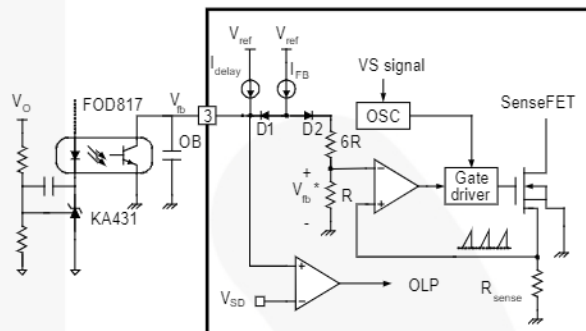

Figure 14. Valley Switching Pulse-Width Modulation (VS-PWM) Circuit
2. Feedback Control: This device employs current-mode control, as shown in Figure 14. An opto-coupler (such as the FOD817) and shunt regulator (such as the KA431) are typically used to implement the feedback network. Comparing the feedback voltage with the voltage across the R_{sense} resistor makes it possible to control the switching duty cycle. When the reference pin voltage of the shunt regulator exceeds the internal reference voltage of 2.5 V, the opto-coupler LED current increases, pulling down the feedback voltage and reducing the drain current. This typically occurs when the input voltage is increased or the output load is decreased.
2.1 Pulse-by-Pulse Current Limit: Because current-mode control is employed, the peak current through the SenseFET is limited by the inverting input of PWM comparator (V_{FB}^*), as shown in Figure 14. Assuming that the $225\ \mu\text{A}$ current source flows only through the internal resistor ($6R + R = 12.6\text{k}\Omega$), the cathode voltage of diode D2 is about 2.8 V. Since D1 is blocked when the feedback voltage (V_{FB}) exceeds 2.8 V, the maximum voltage of the cathode of D2 is clamped at this voltage, clamping V_{FB}^* . Therefore, the peak value of the current through the SenseFET is limited.